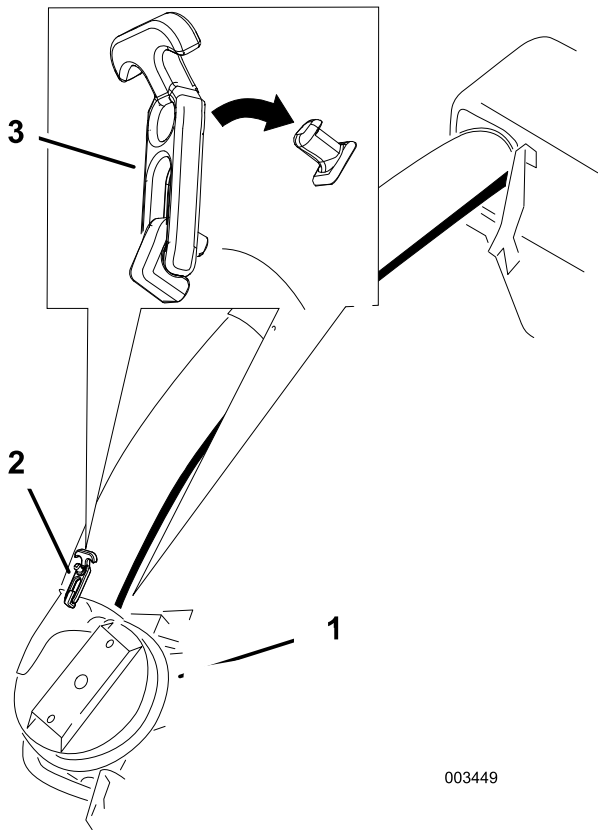

Figure 43
6. Slide the lower tube onto the blower housing and latch them together (Figure 43).